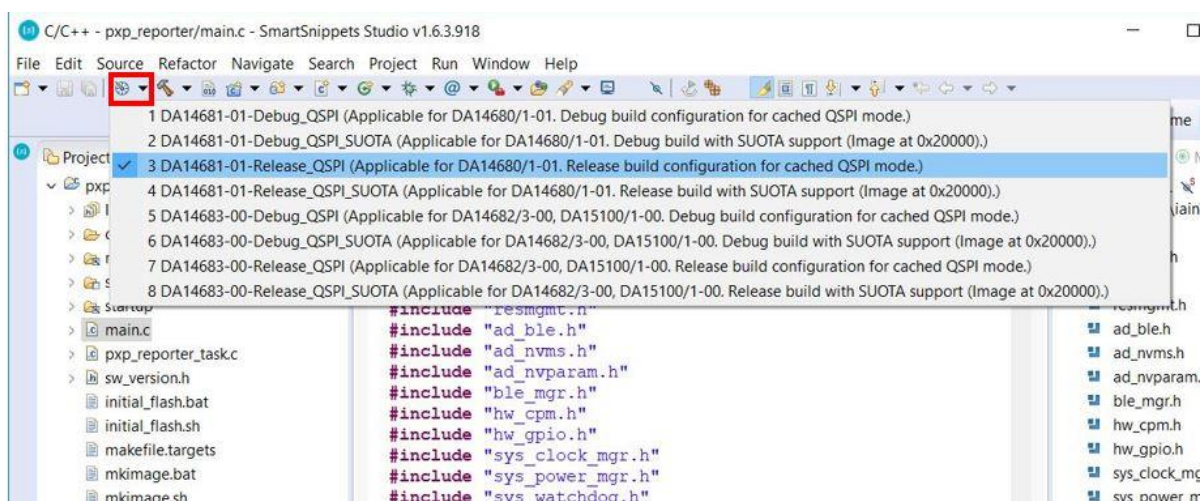

Figure 5: Selecting the build mode
4. Select the project folder and click on the icon as shown Figure 5 and make active the desired build configuration to produce the binary to be programmed to the QSPI Flash memory. The programming script uses the binary from the selected build.